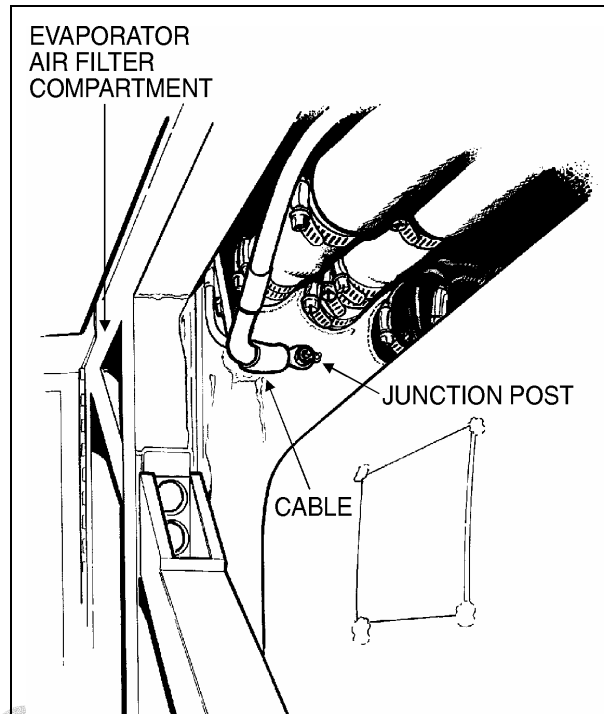

FIGURE 2
6. Disconnect cable from junction post (Fig. 2). Remove the nuts, lock washers and bolts retaining junction post to wall, then remove junction post, and replace with grommet #504356.